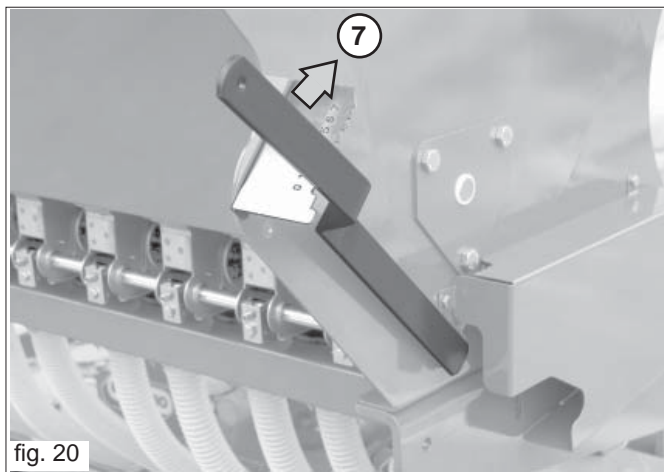

fig. 20
- for large quantities, it is advisable to use the crank on the transmission shift to rotate the agitator shaft to better control seed flow. To empty small amounts of seeds, shift the doser lever beyond position 7 (Fig. 20).